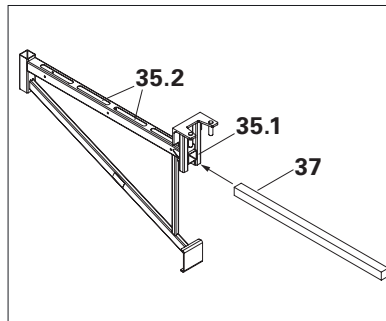
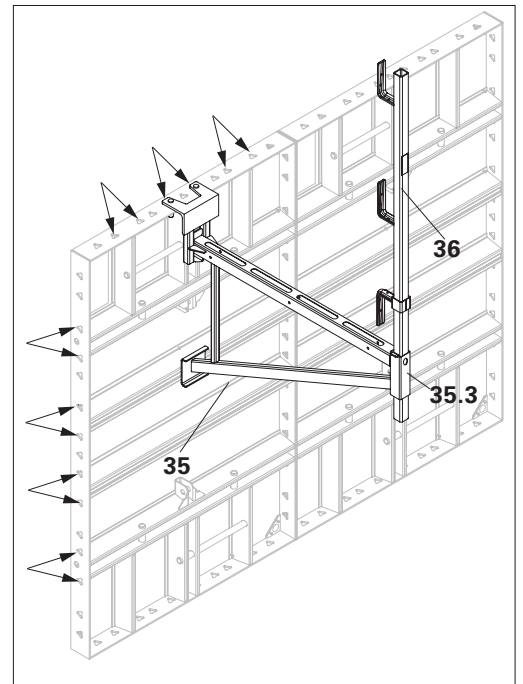

Fig. A7.03
Fig. A7.04
1. Install the timber insert (37) (size 3.8 x 3.8 cm) into the scaffold bracket tube (35.1). (Fig. A7.03)
2. Nail the timber insert from side to secure with Scaffold Bracket HSA 80. → Length of the timber insert (37) = 88 cm. → Timber insert (37) is not included in the Scaffold Bracket HSA 80 (35).
3. Insert the Guardrail Post HSGP-2 (36) into the holder pipe (35.3) of the Scaffold Bracket HSA 80 (35).
4. Insert the Scaffold Bracket HSA 80 (35) into the triangular slots at strut location. (Fig. A7.04)
The Scaffold Bracket HSA 80 (35) can be mounted on both the sides at the location as shown in arrow mark. Fig. A7.04